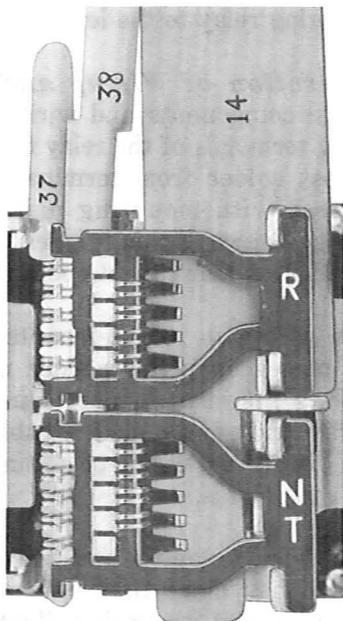

Fig. 9—Detail 14 Comb in Place With Detail 37 Comb and Detail 38 Comb Lifter
3.17 On the top right side of the relay, insert Detail 14 comb behind the cards with the teeth of the comb facing to the left and the slot straddling the armature as shown in Fig. 9. The stop on the comb will come to rest on the top edge of the armature leg so that the movable springs align in pairs between the teeth of the comb.